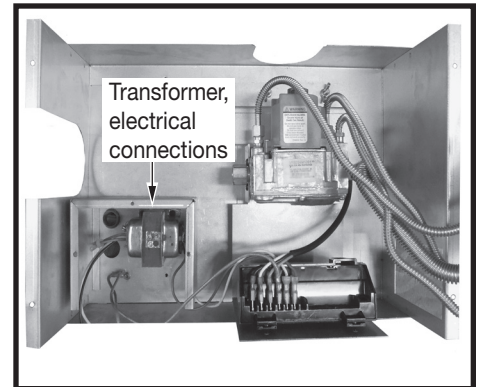

Figure 25: TC42 outdoor control with transformer.
5. Run one 110 V. AC switched electrical supply to the control box and connect to the transformer installed inside the control box (Figure 25). The fireplace operates on 24V AC supplied by a transformer rated at 110 volts, 60Hz. See wiring diagram on page 34 for correct connections to the transformer.